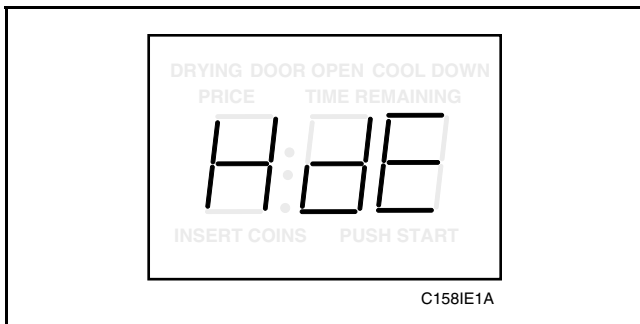

Figure 44
- Press the LOW TEMP (+) pad or the NO HEAT (-) pad to scroll through the programmable options until “HdE” appears in the VFD, *Figure 44*.